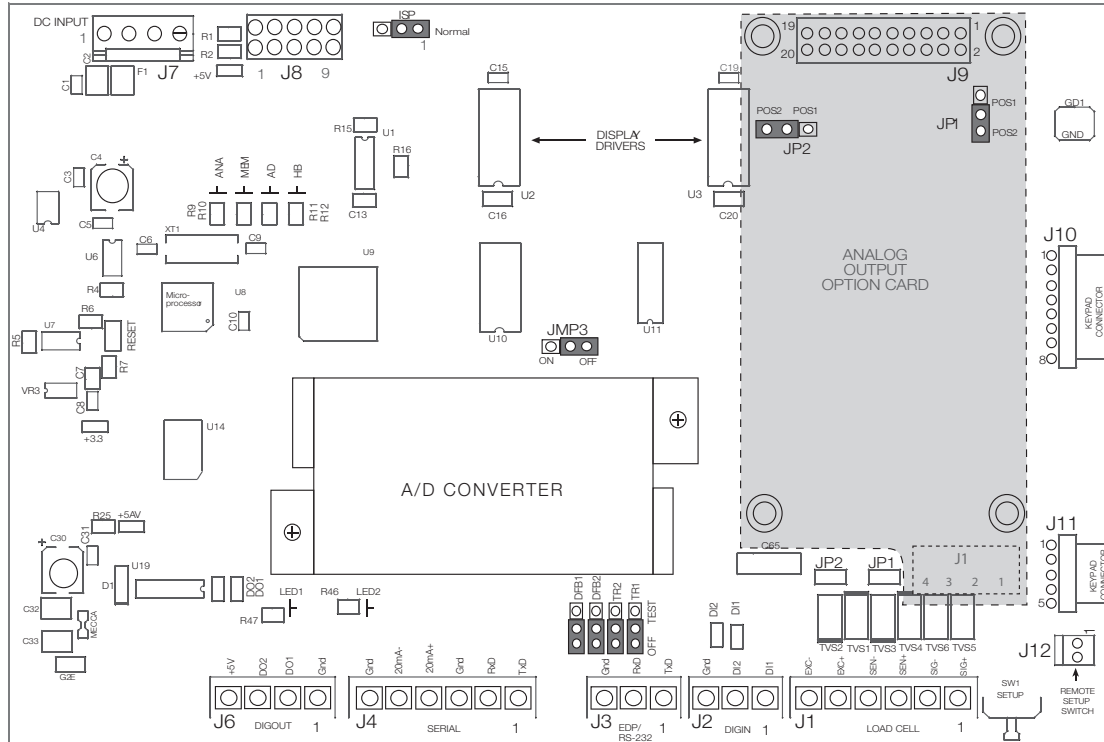

Figure 4-11. CPU and Power Supply Board with Analog Output Option Card
4. Unplug connectors J1 (load cell cable), J2 (digital inputs), J3 (EDP/RS-232), J4 (serial communications), J6 (digital outputs), and J10 & J11 (keypad ribbon cables). If an analog output board is installed, disconnect the analog output cable. See Figure 4-11 for connector locations.